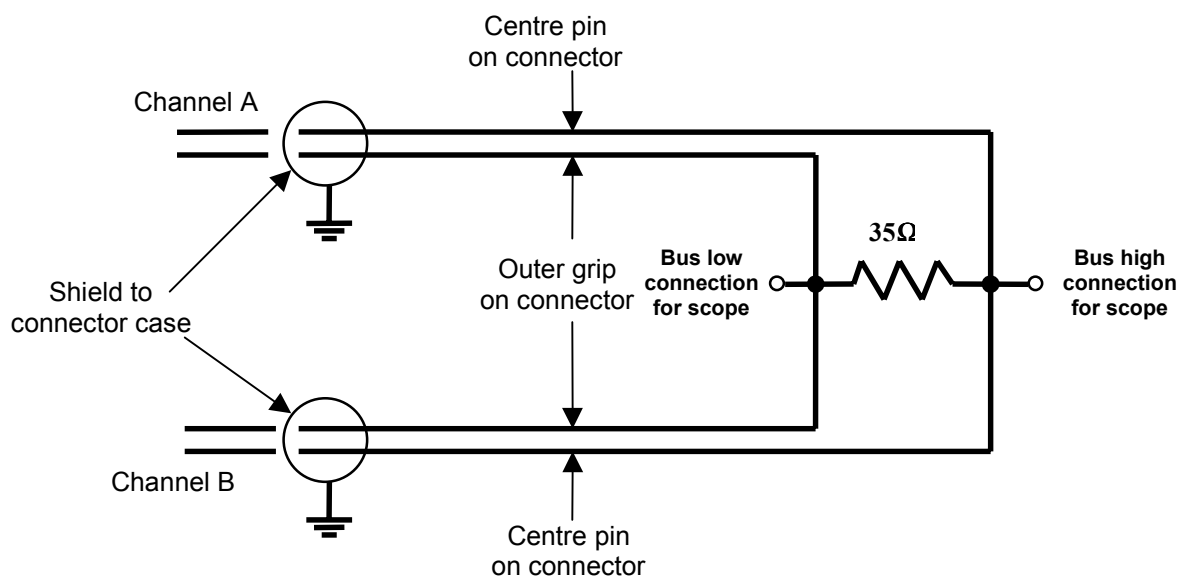

Figure 455-7: Cable Diagram
- A cable to connect the direct coupled output of the WA73A-455 from Direct A to Direct B. This cable will need to have a TNC Triax connector on each end and a $35 \pm 0.1\%$ ohm load across the bus high to bus low connection to simulate a 70 ohm 1553 bus load. Allow enough space to connect an oscilloscope probe on both ends of the resistor. Mark which side of the resistor is BUS+ and BUS-. Refer to figure 455-7.